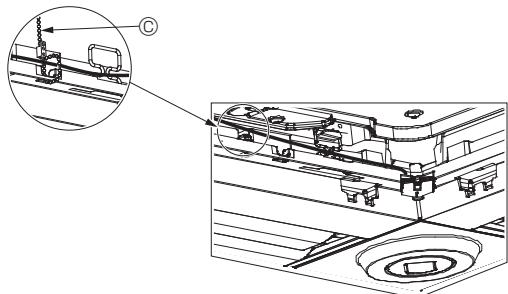

Fig. 10-12
- Secure the i-See sensor and signal receiver wires to the panel with the fastener as shown in the diagram so that there is no slack in the wires, and then cut off the excess end of the fastener. (Fig. 10-12)
- If the position of the i-See sensor was changed from the “○” position (E) to the “□” position (F), change the function settings. (Refer to page 12.)